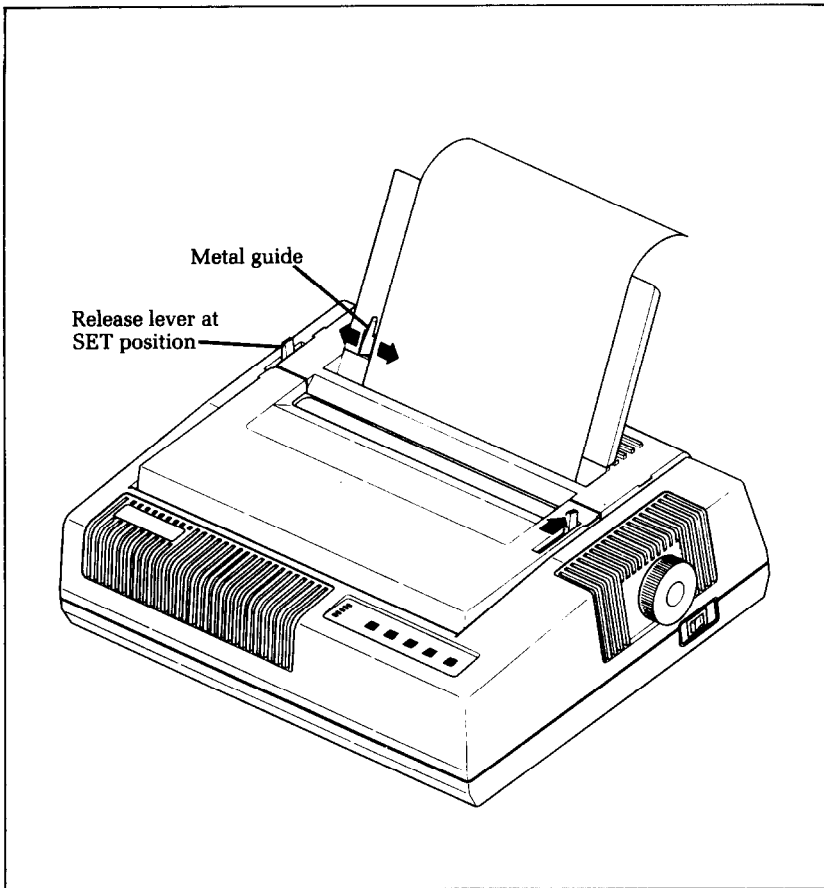

Figure 2-5. The metal guide is used to align the left margin.
2. To set the margin, use the little metal guide (shown in Figure 2-5) in one of its 3 positions.